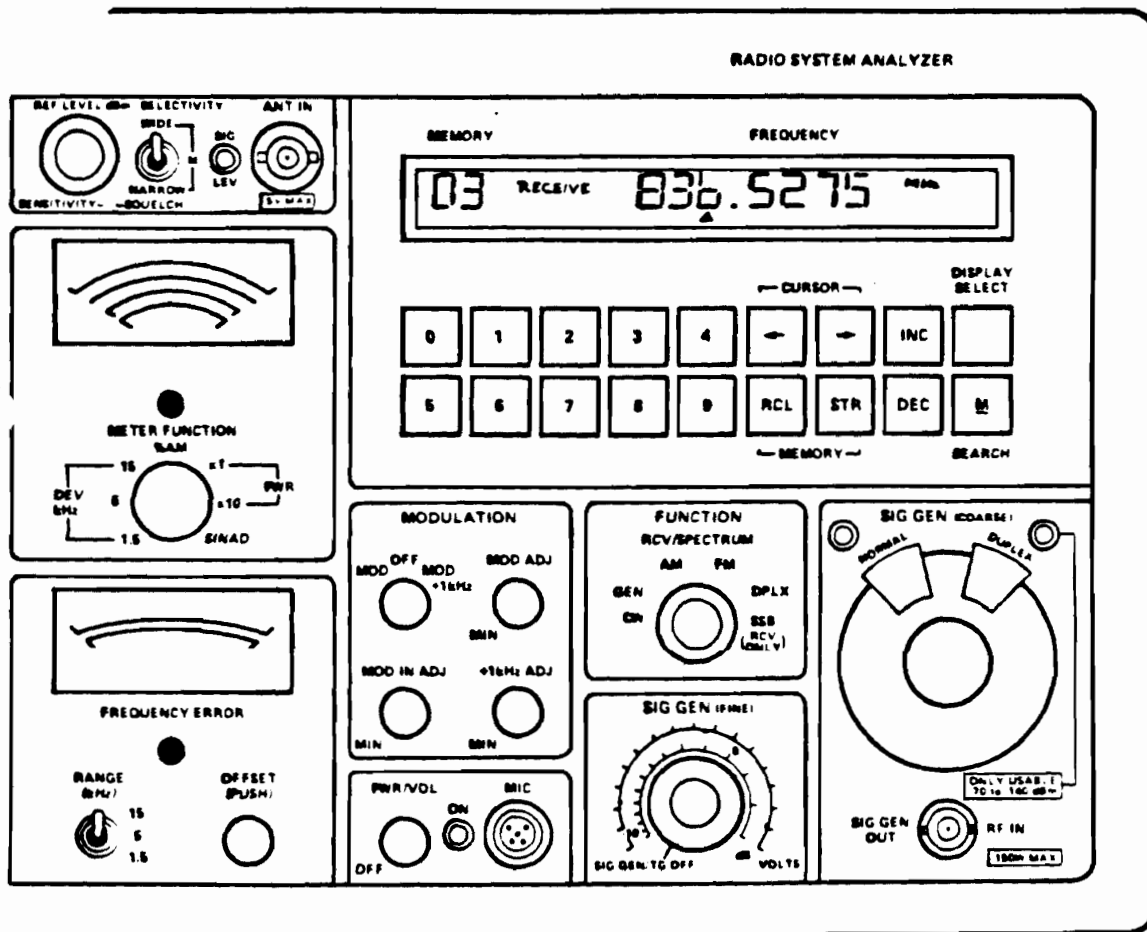

Figure 4-1. Frequency Entry Display and Controls
4.03.3 When the PWR VOL switch is turned ON, all segments of the LCD display will be illuminated for 10 seconds (displays all "8's"). After 10 seconds, the LCD's will display the frequency stored in memory location 01, as determined by the position of the FUNCTION switch, and the cursor will move to the most significant digit (MSD) of the frequency display. This is the normal, or "Home" position of the cursor. See Figure 4-1.